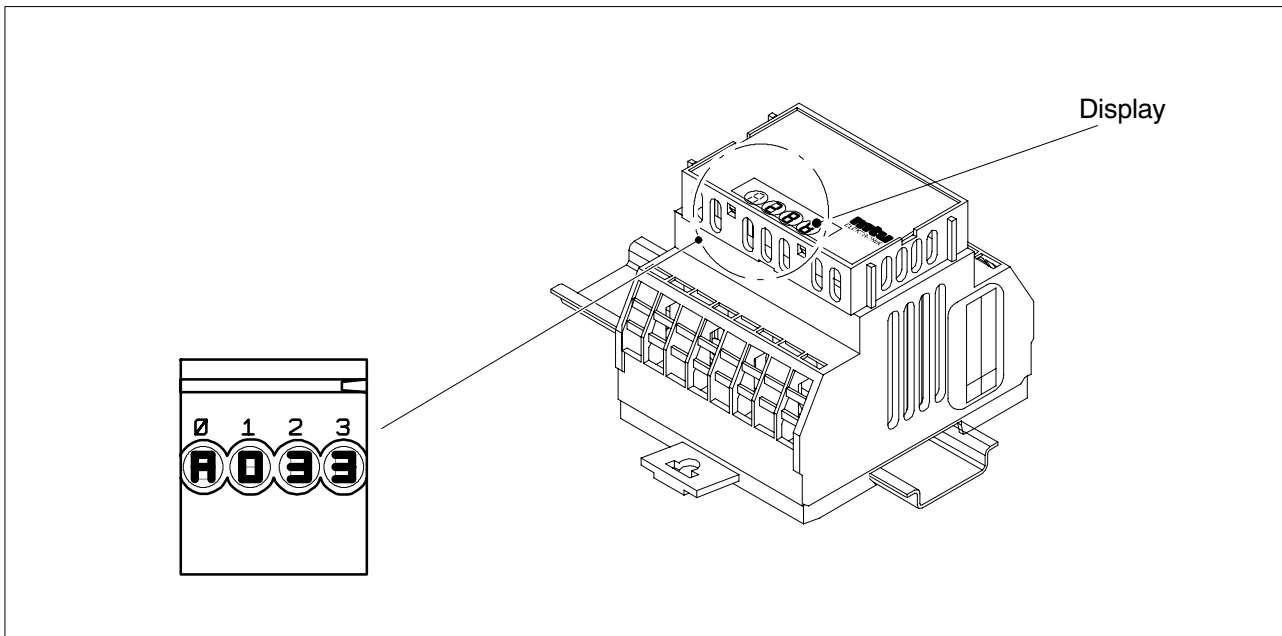

Fig. 21 : Display on printed circuit board FCB in Peripheral Interface Module PIM A 511
The fault codes generated by the ECU are shown on the display in PIM A 511 (see fig. 21).
- The first digit indicates that a fault has occurred (in the example in fig. 21: **A**).
- The second to fourth digits on the display indicate the three-figure fault code (see table in part 3 of this manual, example in fig. 21: **033**).